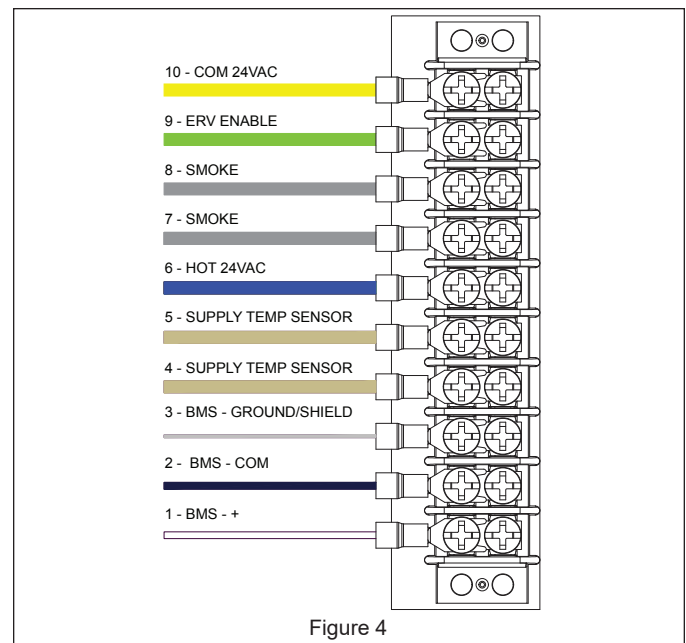

Figure 4
1. Route class II low voltage wire (3 conductor) from thermostat, relay, or Energy Management through a field installed conduit to a Drill Here location on the side panel of ERV (next to high voltage connector), or in the return duct to the (**Page 4**) controls section of the ERV. See Control Schemes for wiring information. **See Figure 4.**
- Unit Startup:** Turn on power disconnect, turn on unit either from controls or by jumping 24v+ from terminal #6 to terminal #9. **See Figure 4.** Check that motors are spinning the correct direction that the enthalpy wheel is spinning and that motorized intake air and exhaust dampers are opening.
Thermostat: When using an ERV to service a large area with multiple AC units or when not tying directly into the ductwork of a single AC system, the ERV can be run off of its own Thermostat. Attach the 24V+ wire "R" to terminal #6 on TS2, then wire "G" and "C" onto terminals #9 and #10 respectively. Program Thermostat to energize G when space is occupied. **See Figure 4.**
CO₂ Sensor/ Transmitter: An ERV can be wired to a wall mounted CO₂ Sensor/ Transmitter with relay like Johnson Controls CD-WR0-00-0 (or CD-WRD-00-0) in order to operate the ERV when ventilation is required due to high CO₂ levels. This type of transmitter has an adjustable set point, and a relay that the 24V+ signal can be wired, into and Normally Open contact can be wired out of. "Common" and "A" should be wired to terminal #6, "B" to terminal #10, and "N/O" should be wired to terminal #9. The ERV will then turn on and provide fresh air to the space to lower CO₂ levels. **See Figure 4.**
Smoke detectors can be factory ordered with the ERV. A qualified technician needs to field wire the smoke detector into the controls at TS-2 7 and 8 to turn unit off in case of alarm. **See Figure 4.**